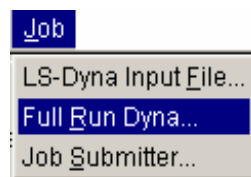

Figure 2.39 Job menu
1. Select **Job** → **Full Run Dyna...** in the menu bar. See Figure 2.39.